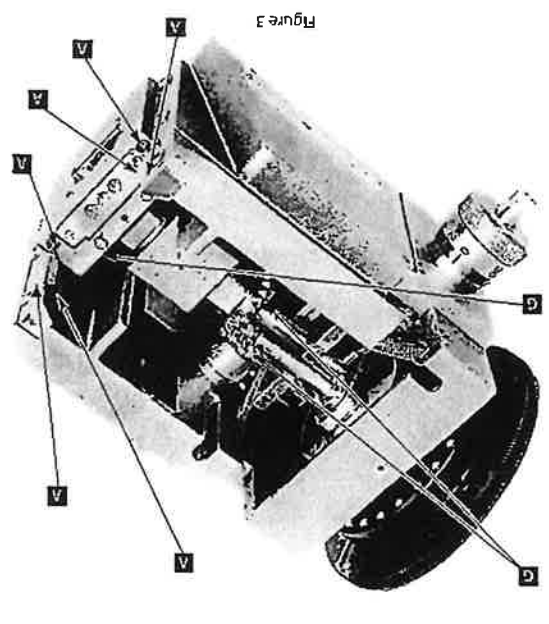

Figure 3
- Lubricate the Microtome surfaces and holes as indicated in Figures 3, 4, and 5.
Figure 3 (Oil "A" and Grease "C") — Place 3 drops of Oil "A" in the two holes adjacent to the vertical gibs. Also place oil on the front and rear V-surfaces of the vertical gibs. Smear a small amount of Grease "C" on the two gears. Raise the Chuck and grease the left and right sides of the roller inside the rear of the Chuck. Then move the Chuck up and down several times to spread the grease.